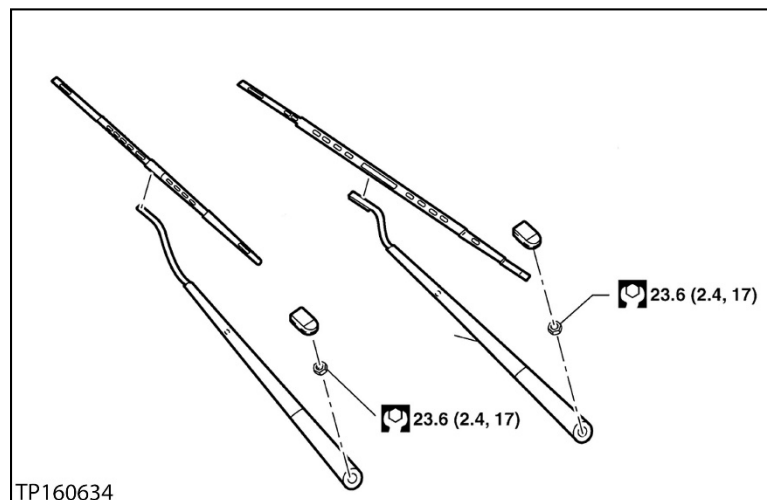

Figure 118
- f. Install the wiper arms with nuts and covers (see Figure 118).